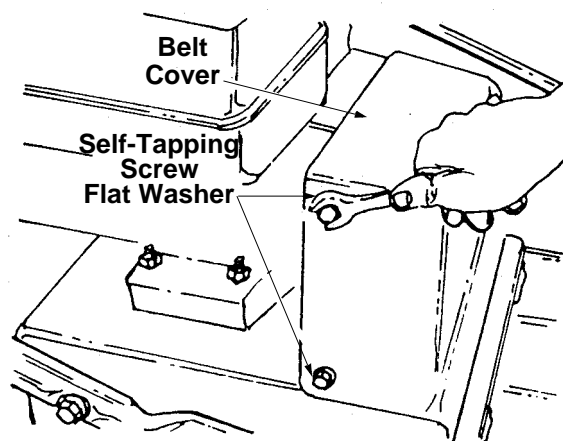

Figure 17
2. Remove the plastic belt cover on the front of the engine by removing three self-tapping screws and flat washers. See Figure 17.